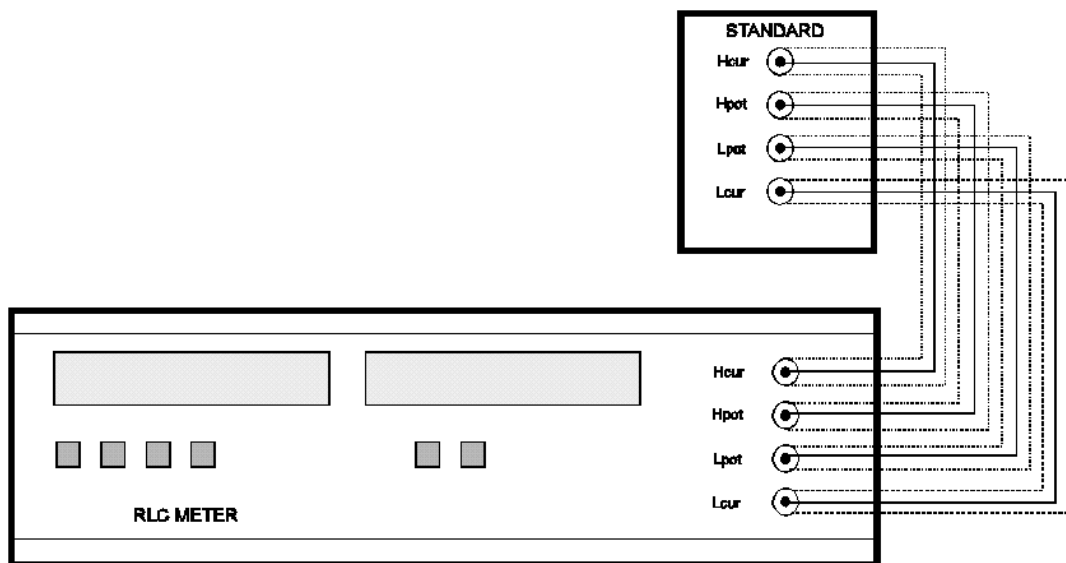

Fig.10. Standard connected to RLC-meter
5. Connect the corresponding Standard to the RLC-meter as shown at Fig 10. Record the measured values of the main A_{STD} and the residual components B_{STD} .